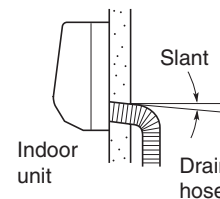
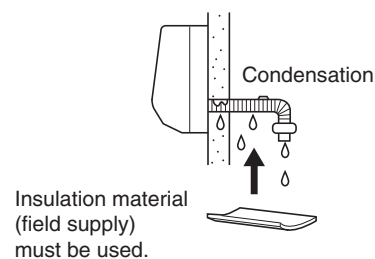

Fig. 1-82
Fig. 1-83
- (1) The drain hose should be slanted downward on the outdoor side. (Fig. 1-82)
- (2) Never form a trap in the course of the hose.
- (3) If the drain hose will run in the room, insulate* the hose so that chilled condensation will not damage furniture or floors. (Fig. 1-83)